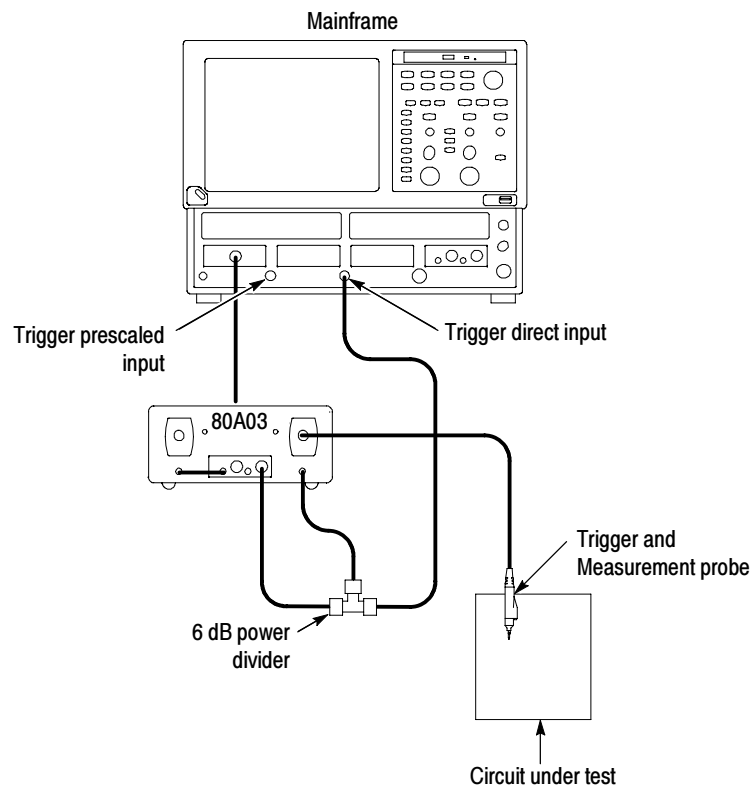

Figure 11: Setup for triggering the mainframe and viewing signals using the 80A03 TekConnect Probe Interface Module
2. Use a 0.5 m SMA cable to connect the 6 dB (2X) power divider to the disconnected CH B SMA connector on the TekConnect Probe Interface Module. See Figure 11.
3. Use a 0.5 m SMA cable to connect the disconnected port on the sampling module to one side of the 6 dB (2X) power divider. See Figure 11.
4. Use a 0.5 m SMA cable to connect the other side of the power divider to the mainframe trigger input (Trigger Direct or Trigger Prescaled). See Figure 11.
5. Attach a TekConnect trigger probe to CH B on the TekConnect Probe Interface Module. See Figure 11.